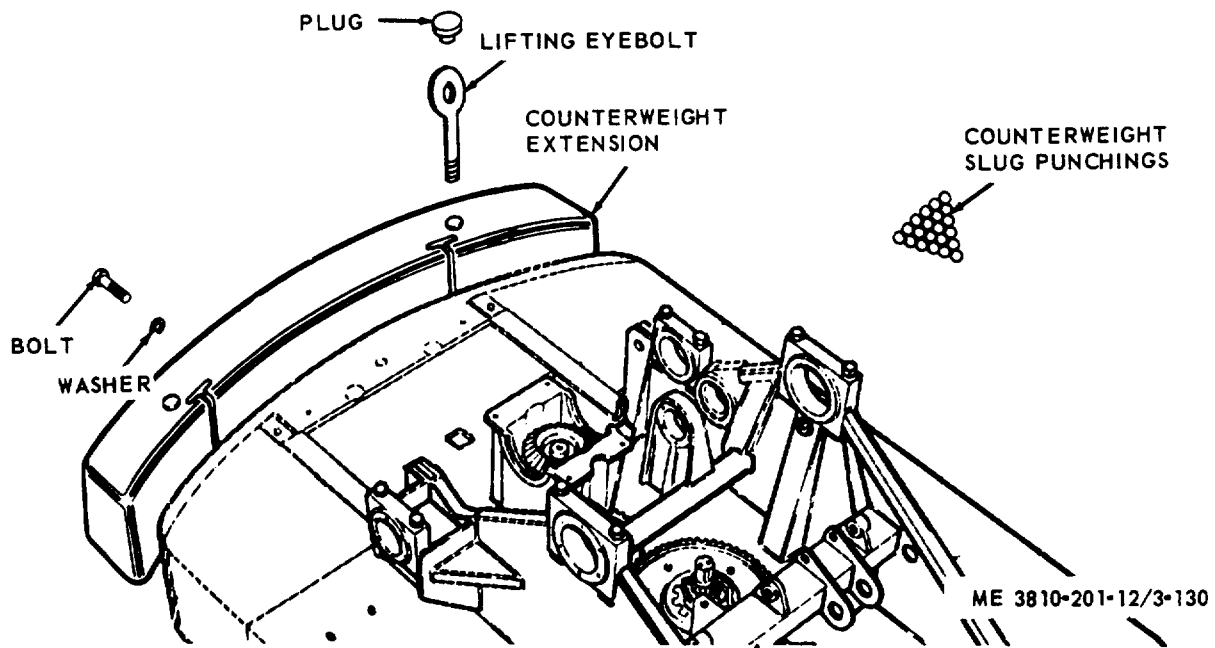

Figure 3-130. Counterweight extension, removal and installation.
- (1) Position lifting device capable of lifting 10,000 lbs at rear of crane-shovel unit.
- (2) Remove two plugs (fig. 3-130) from